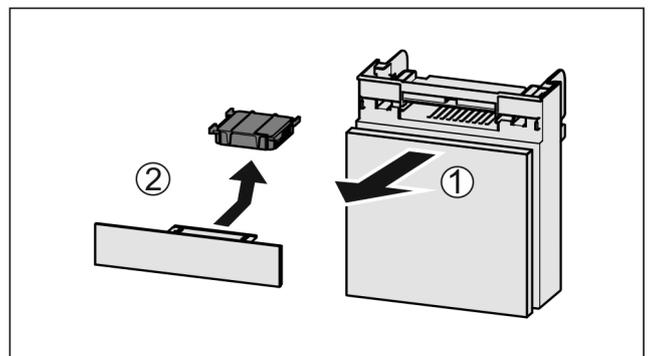

Fig. 72
- ▶ Pull out the compartment Fig. 72 (1).
- ▶ Remove the carbon filter Fig. 72 (2).